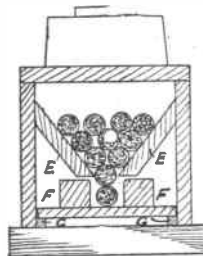

Fig. 3—End section showing cigarettes
ments may be taken direct from this diagram for marking out the various pieces. There is a box-like construction inside which are two sloping partitions (E) as seen in the cross section Fig. 3. These partitions run the length of the box and are $1\frac{1}{4}$ ins. wide.
The sides must be chamfered to fit and also shaped on their lower edges to slide clear of the base blocks (F). At the extreme lower edges of the sides of the box glue on pieces of $\frac{1}{8}$ in. square stuff as G in Fig. 3. These pieces act as guides for the box, and work freely in the